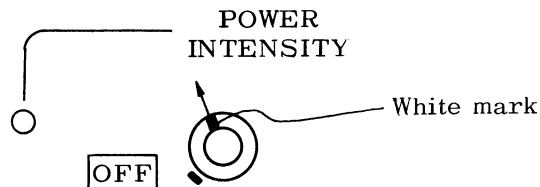

Fig. 4-2
- ⑤ Adjustment of alarm voltage
- ⑥ Adjust - grid bias
- a. Set the POWER/INTENSITY control as shown in Fig. 4-2.